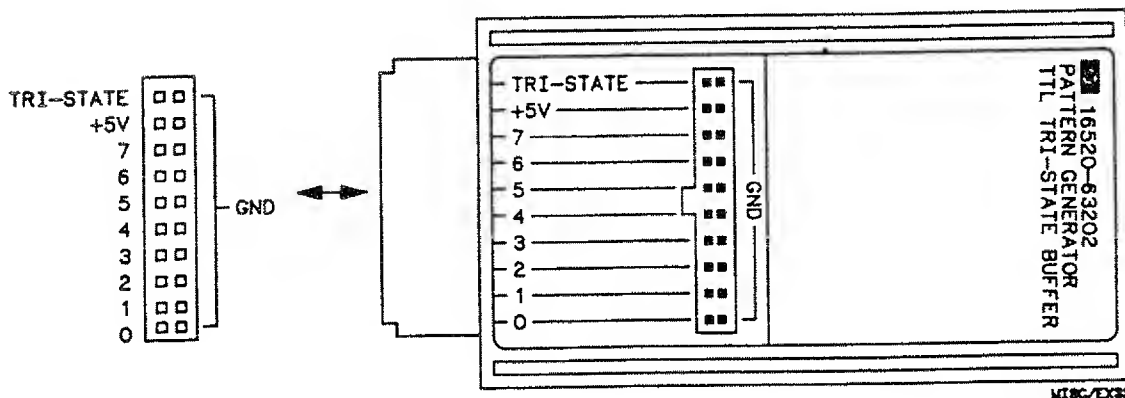

Figure 3. Labeling of Output Pins
Use the probes supplied with the pattern generator to connect the HP 10346A pod to the target system. The output pins for the pod are marked on the pod body (see figure 3). To connect to the target system:
4. In order to control the pod, you must connect an input to the TRI-STATE pin of the HP 10346A pod (see figure 3). A 2.0 V high level input tri-states the HP 10346A outputs, while a 0.8 V low level input enables the pod to buffer out the input signals.